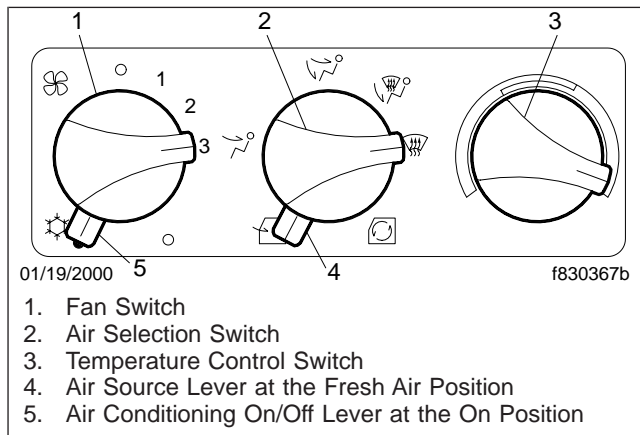

Fig. 3.35, Defogging and Defrosting Settings
4. Move the air selection switch to the windshield (defrost) position, turn the air source lever to the fresh air position, and if so equipped, move the air conditioning on/off lever to the on position as shown in Fig. 3.35. In this position, warm, dry air is directed to the windshield.